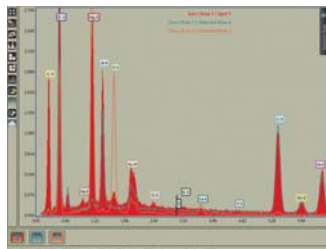

Figure 2: Spectrum Overlay.
- ◆ Overlay any number of desired spectra from the same field of view, another area or another sample, as found in the project tree. See Figure 2.